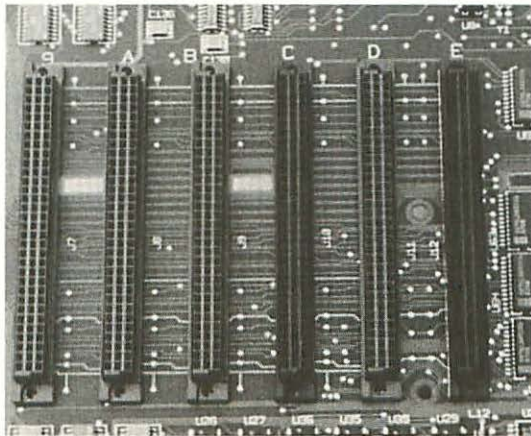

Figure 7-1 Original Macintosh II computers contain six 96-pin Euro-DIN connectors labeled "9 A B C D E."
2. Inside the CPU cabinet, each NuBus slot is fitted with a 96-pin Euro-DIN connector. As shown in Figure 7-1, original Macintosh II computers contain six 96-pin Euro-DIN connectors labeled "9 A B C D E." Macintosh IIcx/ci computers contain three 96-pin Euro-DIN connectors marked "9 A B" or "C D E." Select an empty 96-pin Euro-DIN (NuBus) connector.